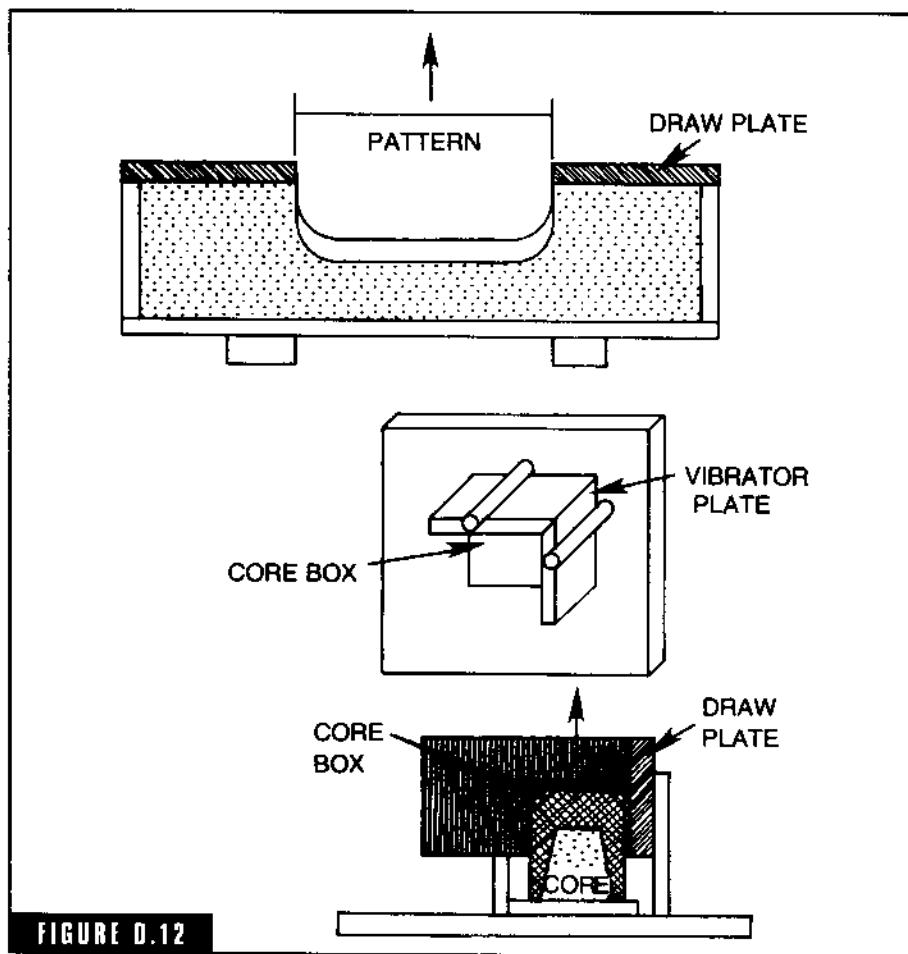

FIGURE D.12
**draw plate** A plate or device sometimes attached to the pattern to assist or facilitate the drawing of the pattern from the sand (Fig. D-12). A vibrating guide plate used to draw a core box from the core. In some cases it is a simple cutout in a plate through which the pattern is drawn.